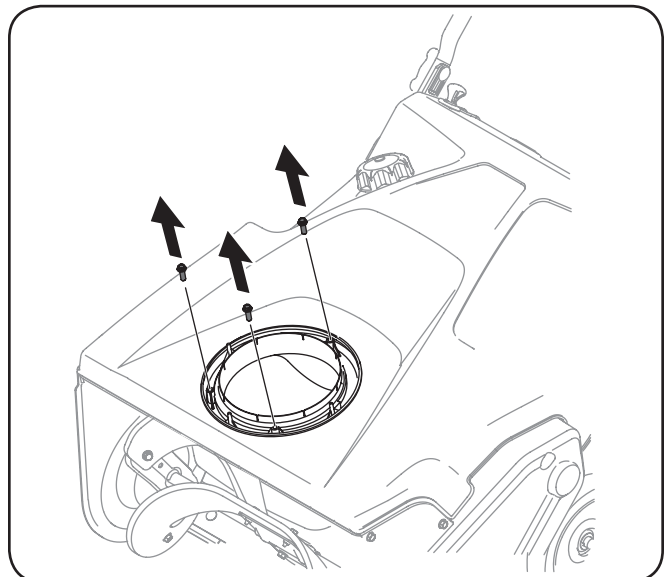

Figure 3-3
1. Remove the hex washer screws in the chute base. See Figure 3-3.